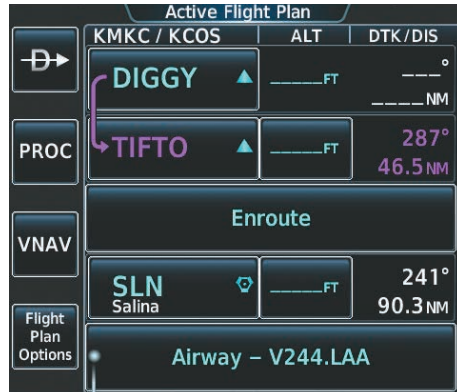

Figure 5-159 Selecting the Insertion Point
- b) The desired entry point for V4 (TOP) must be entered. Touch the desired waypoint selection button (SLN) shown in Figure 5-159 to display the Waypoint Options Window.